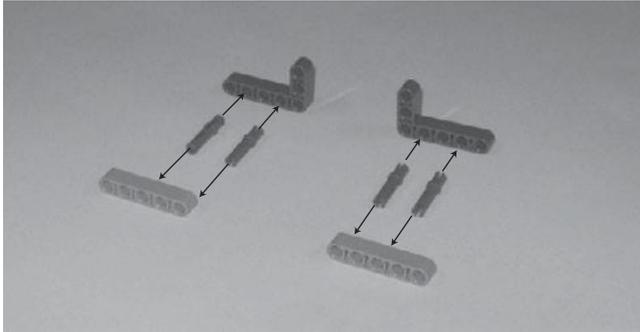

Figure 9.3
Step 1—Take two 5M straight beams, four connector peg with friction 3M pegs, and two 3 × 5M perpendicular beams and connect them as shown in Figure 9.3.